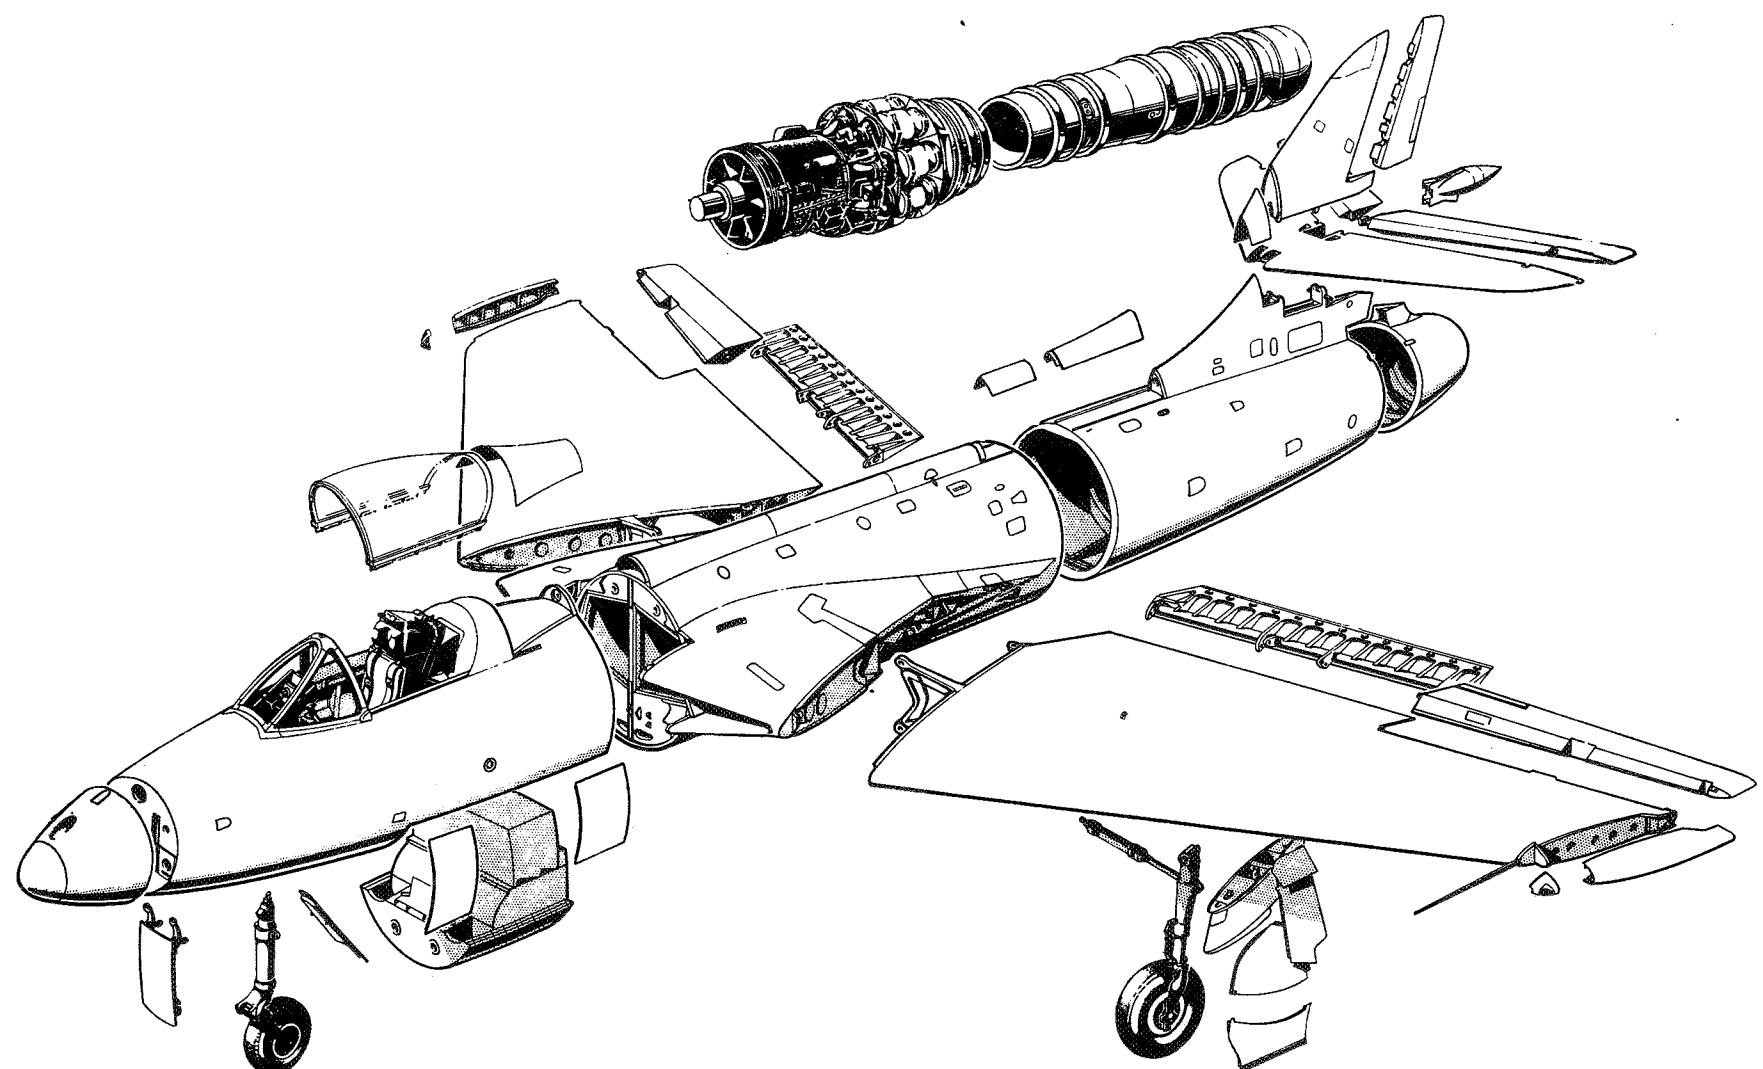

Fig. 2. Major components
4. The breakdown points for dismantling the aircraft are shown in fig. 2. The recommended order of dismantling is as follows:—
Packing dimensions (fig. 2)